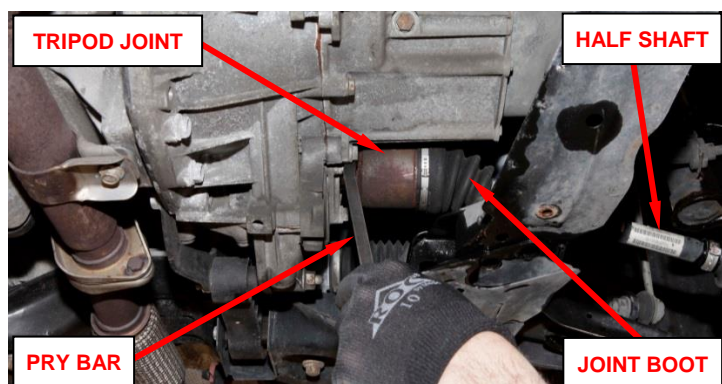

Figure 40 – Half Shaft Tripod Joint
39. Use a pry bar to separate the half shaft tripod joint from the transmission differential side gear (Figure 40).